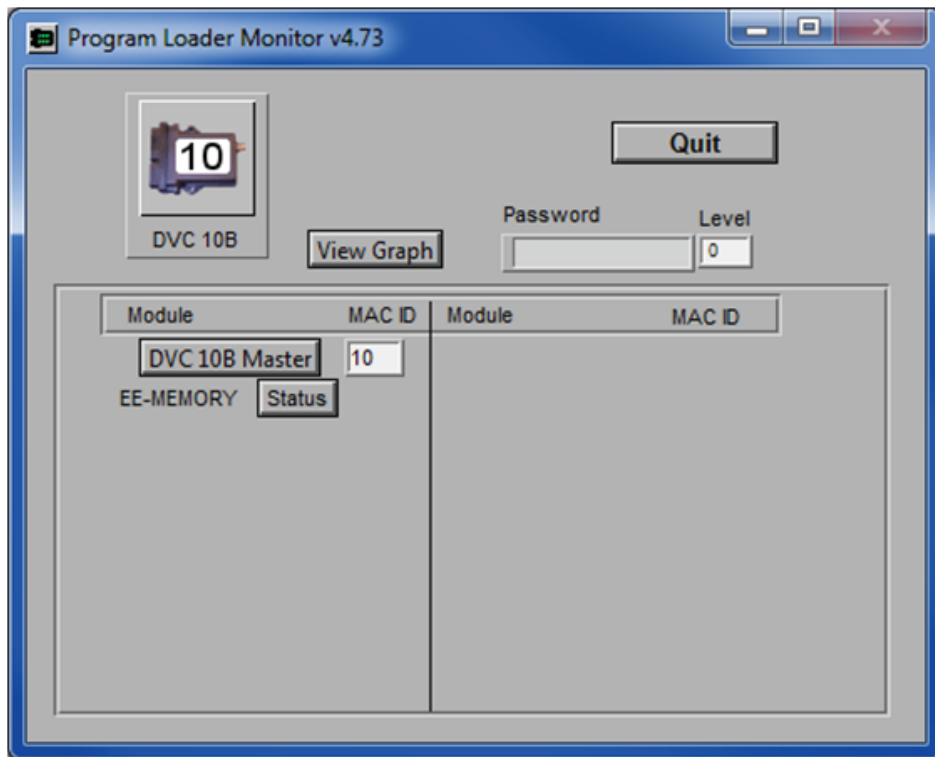

Figure 3-24 Program Loader Monitor v4.73
4. A window called “Program Loader Monitor v4.73” should appear (see Figure 3-24).